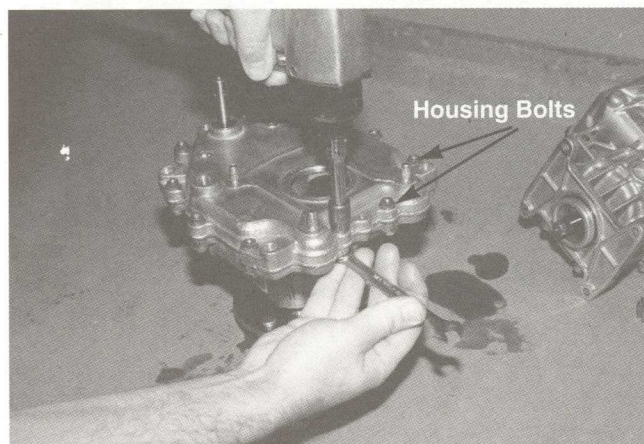

FIGURE 6.
6. To disassemble the housing halves remove the housing bolts with a 7/16 inch wrench and socket. See figure 6.